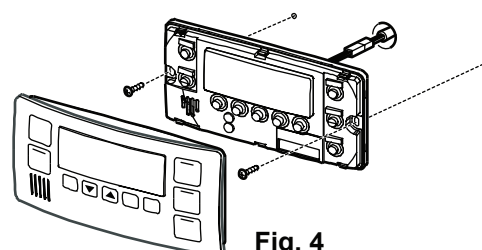

Fig. 4
7. Fix the controller to the wall using the appropriate fixings as shown in (Fig. 4), avoid over-tightening of fixings as this may cause damage. Once secured replace the face plate.